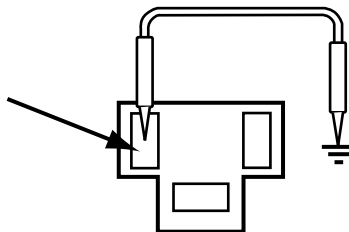

Figure 12-10 Terminal C on 1990–93 B-Series and MPV
1. Attach a jumper wire to Terminal C (yellow wire, Figure 12-10).